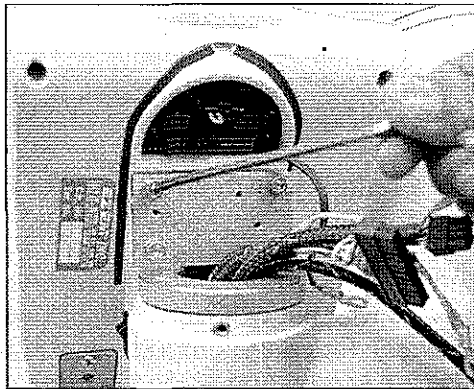

Figure 5-1b: Removing Socket Head Screws
6. Use the 5/32" Allen wrench to remove the four socket head cap screws that secure the Injector Controller to the Controller Cable Mounting Plate (see Figure 5-1b). **Hold onto the Injector Controller. Do not allow it to fall.** Each screw has a lock washer. Place the Injector Controller on a clean surface in a safe area.
3. Use the 5/32" Allen wrench to secure the Injector Controller to the Controller Cable Mounting Plate with the four socket head cap screws and lock washers (see Figure 5-1b).